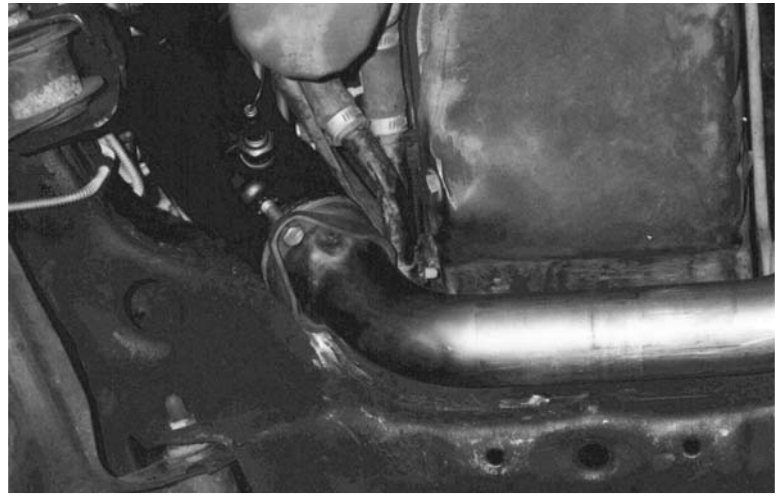

Figure 5
5. Position T.E.S. extension pipes against T.E.S. manifolds so that an equal amount of donut gasket is showing all around the flare on both pipes (see Figure 5). This assures correct alignment of the two parts before welding the rest of the system.